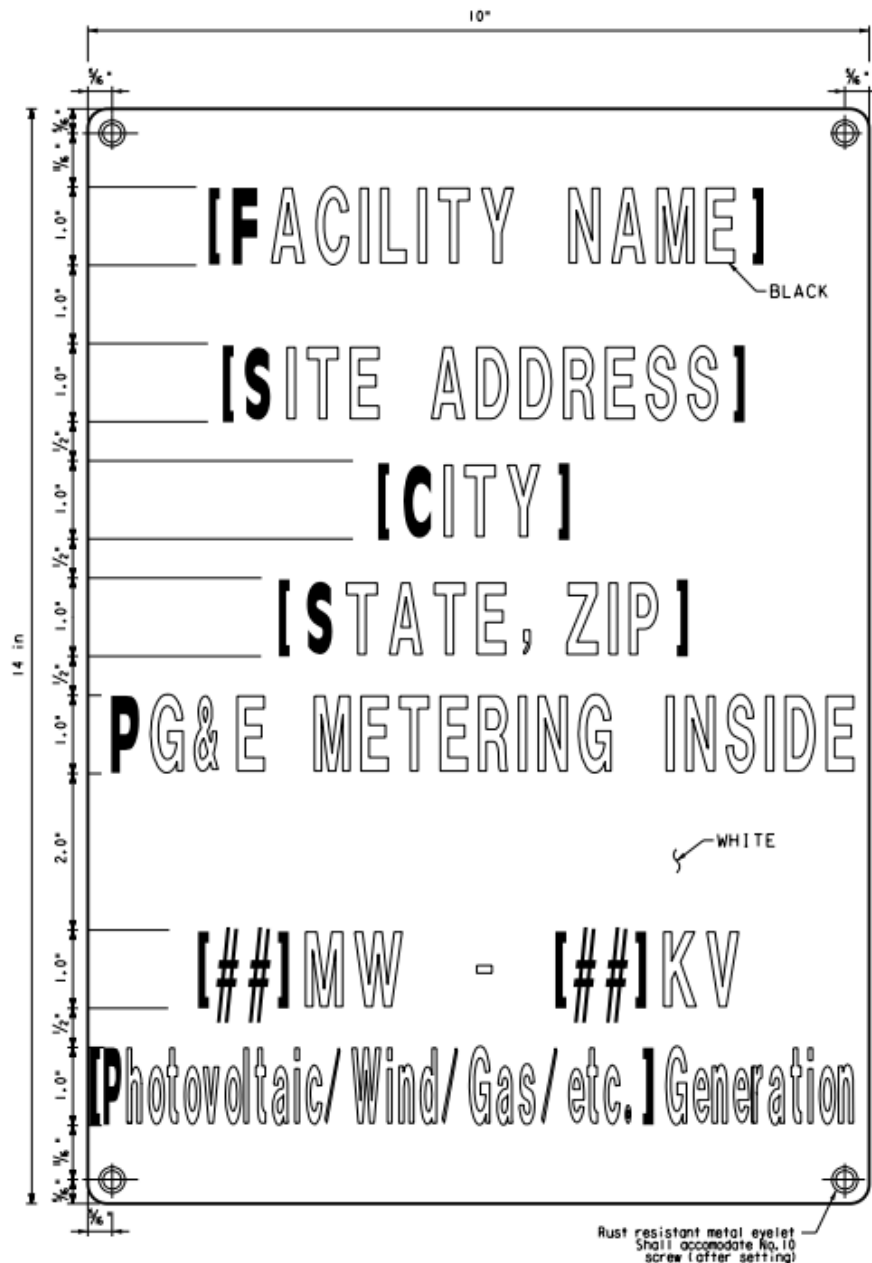

Figure 7. Non-Control Room Metering Sign
4. USE black letters on a white background. (SEE Figure 7 below for an example of a non-control-room metering sign.)